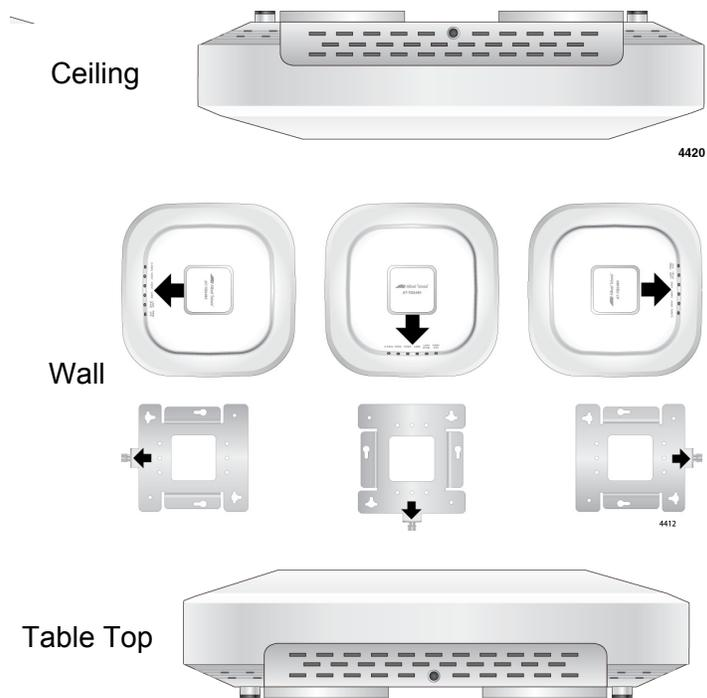

Figure 4. Acceptable Orientations on a Tabletop, Wall and Ceiling Installation
- ❑ Refer to Figure 4 for the acceptable orientations for the tabletop, wall and ceiling installations.
1. Choose an allowable orientation of the access point from the examples shown in Figure 4 on page 33.
When installing the mounting bracket, ensure that its thumb screw is oriented in the same direction as the front of the access point chassis so that your intended orientation of the chassis is achieved after installation. Refer to the arrows in Figure 4 on page 33.